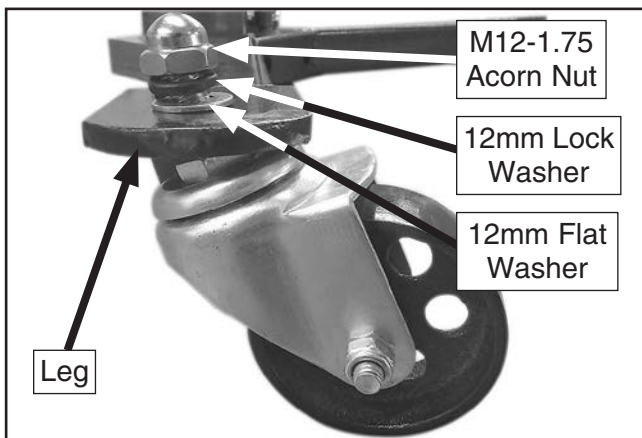

Figure 3. Caster attached to leg before tightening acorn nut.
1. Attach casters to legs using (1) 12mm flat washer, 12mm lock washer, and M12-1.75 acorn nut on each (see **Figure 3**).